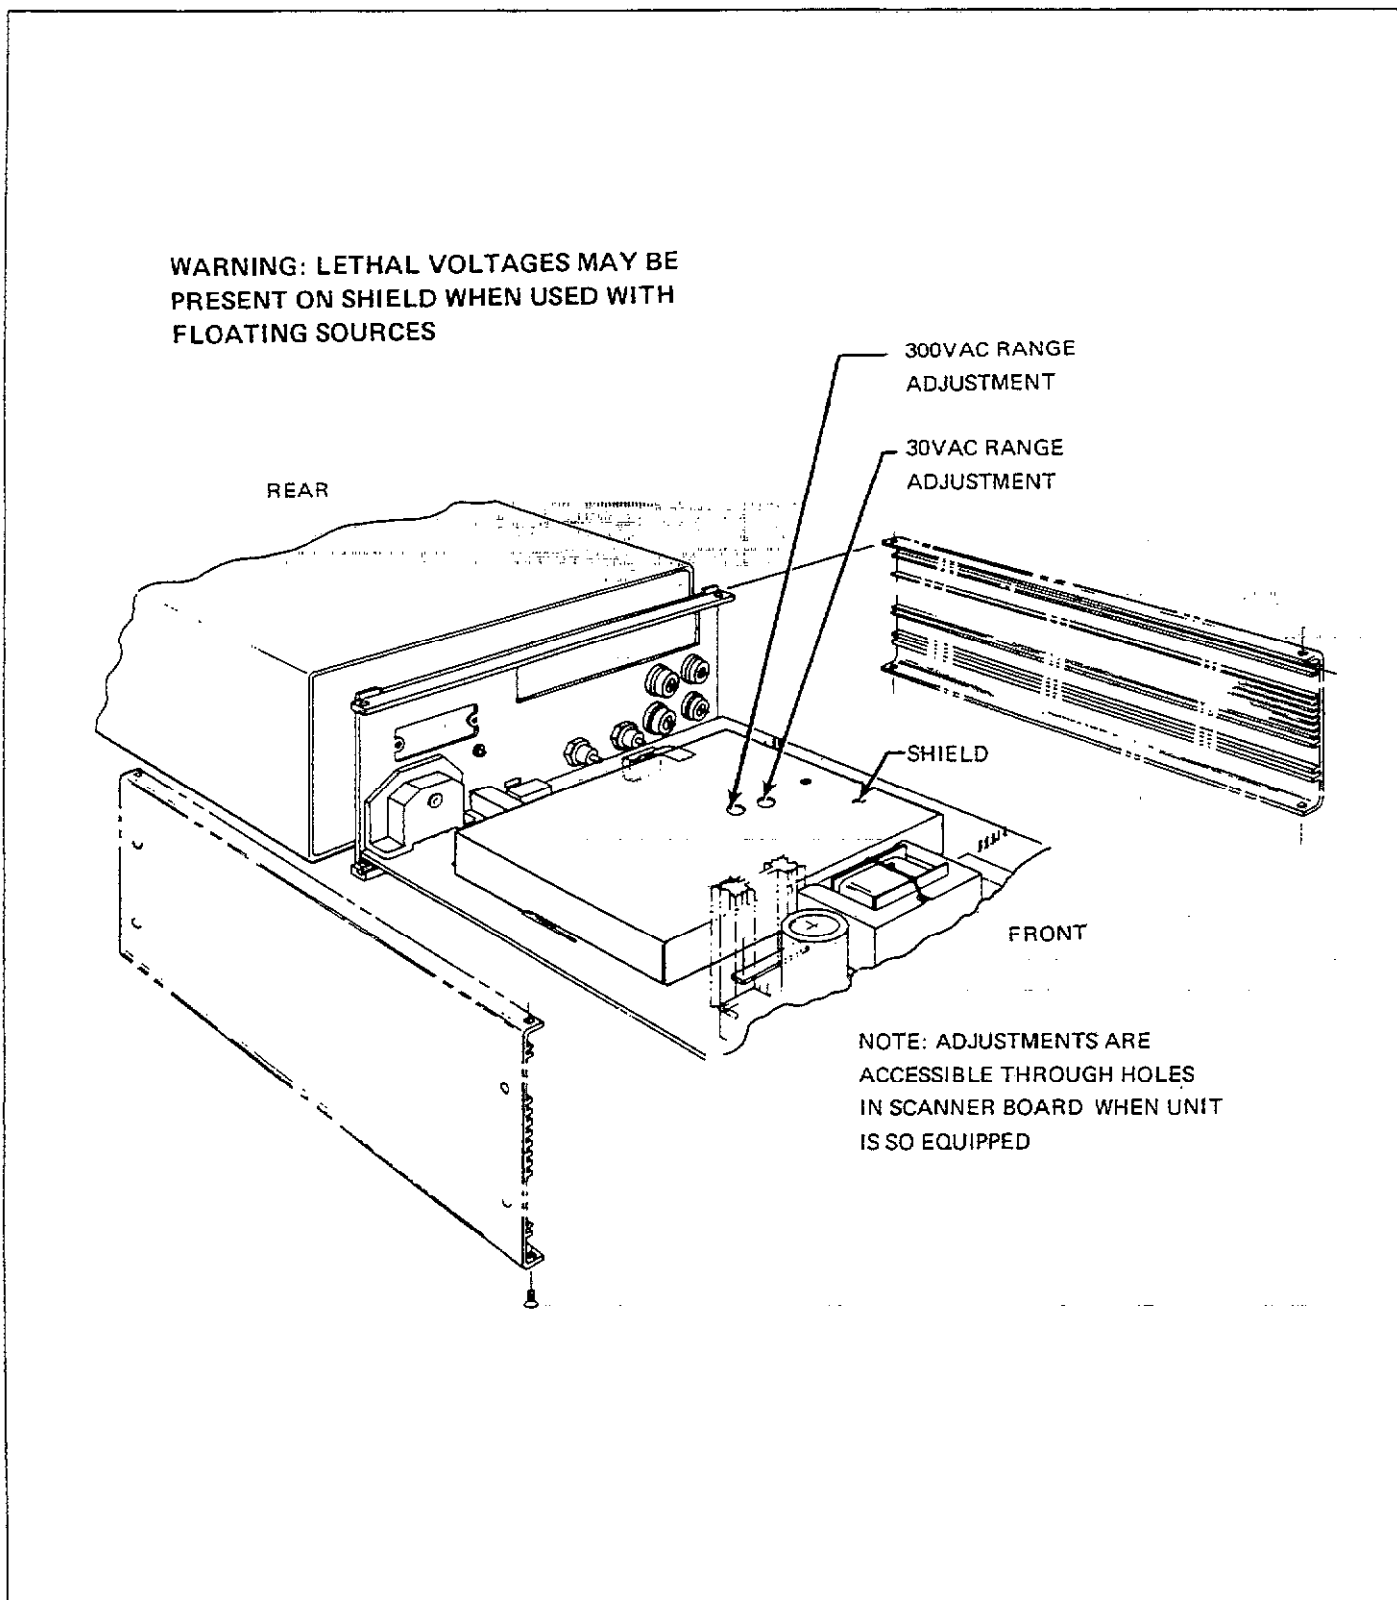

Figure 6-7. TRMS AC Volts High Frequency Calibration Adjustments (30V and 300V Ranges)
- D. After allowing sufficient time for the measurement to settle, use an insulated alignment tool to adjust the 300V range capacitor C49 (see Figure 6-7) for a display reading of 100.000V ±500 counts.